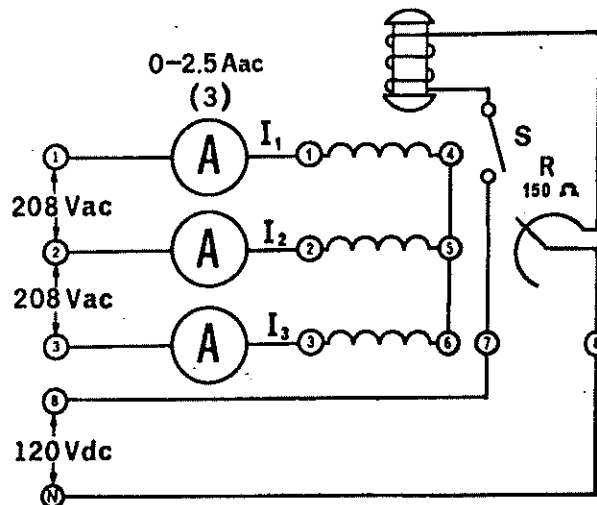

Figure 7-1.
- 1. Because of its constant running speed, the synchronous motor will be used to mechanically drive the DC generator. Using your Power Supply, AC Ammeter and Three-Phase Synchronous Motor/Generator, connect the circuit shown in Figure 7-1.